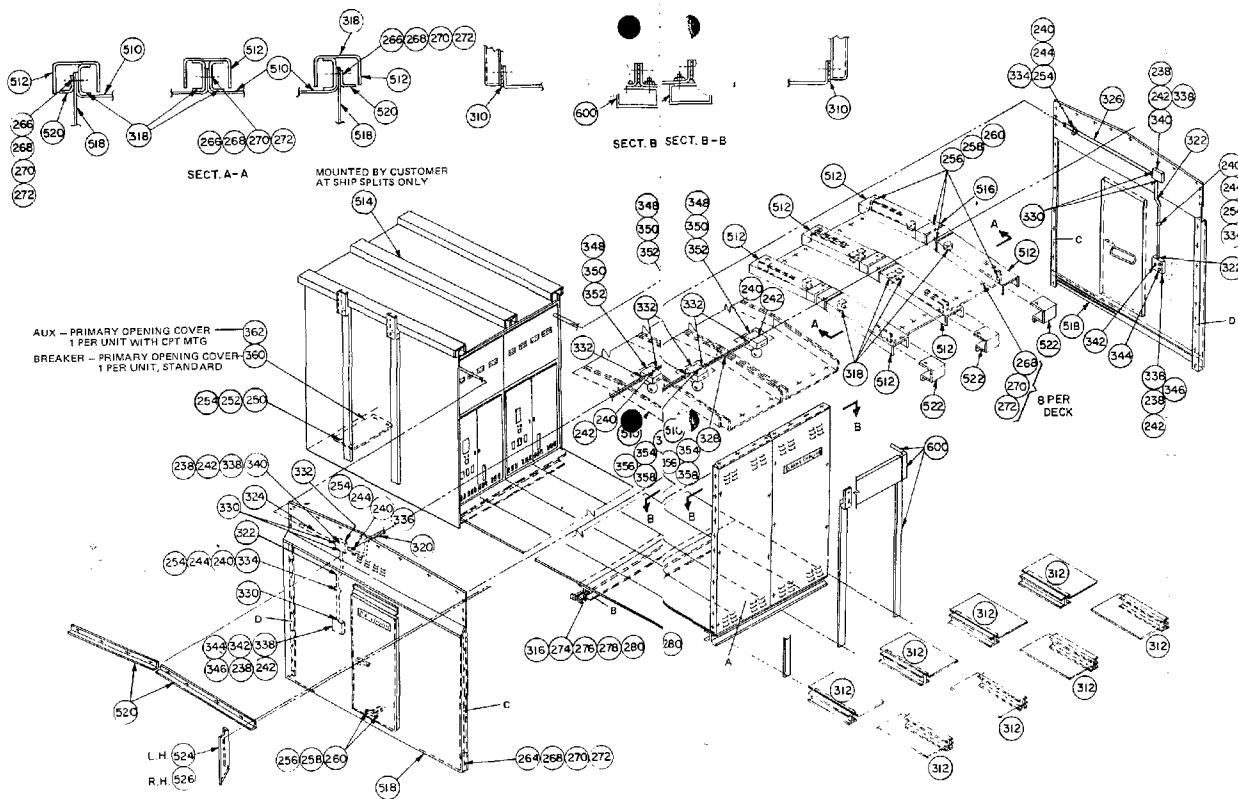

Figure 14. Aisle Assembly - Type "SIV"
10. Put all roof covers (510) in place and bolt to aisle wall assembly (A) and roof support.
11. Fasten roof covers together using bracket (318) at positions (two per joint) shown in Section A-A of Fig. 14.
12. Install trim angles (520) at each end of aisle.
13. Set roof channels (512 and 514) over roof cover joints. Slide the channel toward the roof peak until the clip inside the channel engages the bracket (318).
14. Install roof hoods (516).
16. Mount aisle conduit, switches, receptacle and wire to junction box at each end unit. See conduit arrangement in Fig. 14.